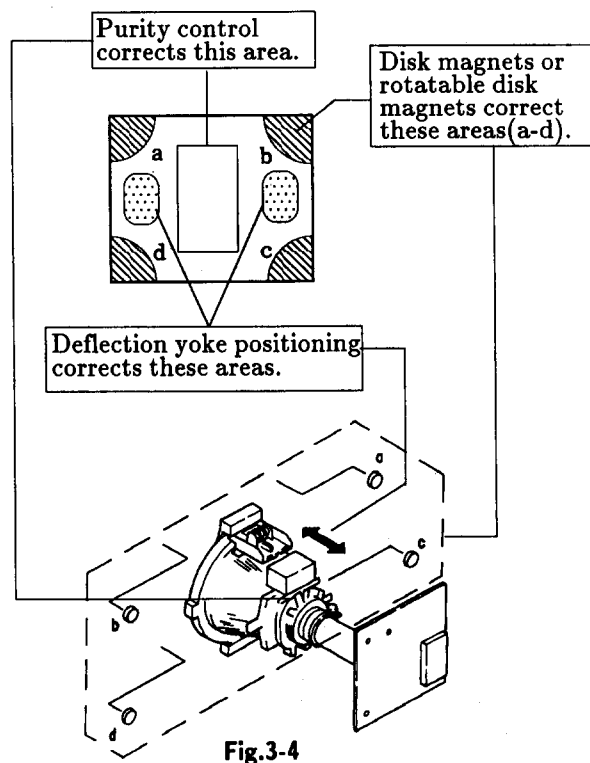

Fig.3-4
7. When landing at the corner is not right, adjust by using the disk magnets. (Fig.3-4)